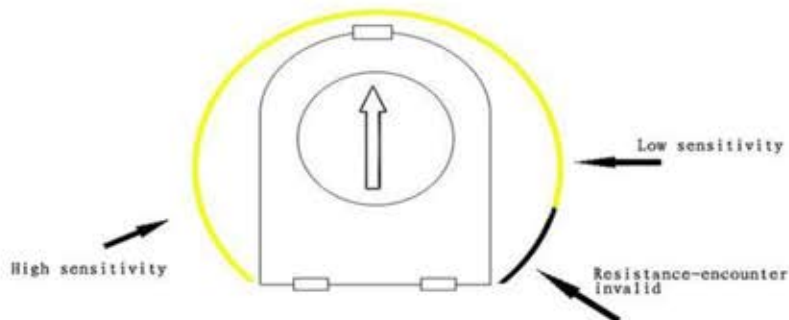

Fig 18
7.2 Gate close blocked detection: Fig 18